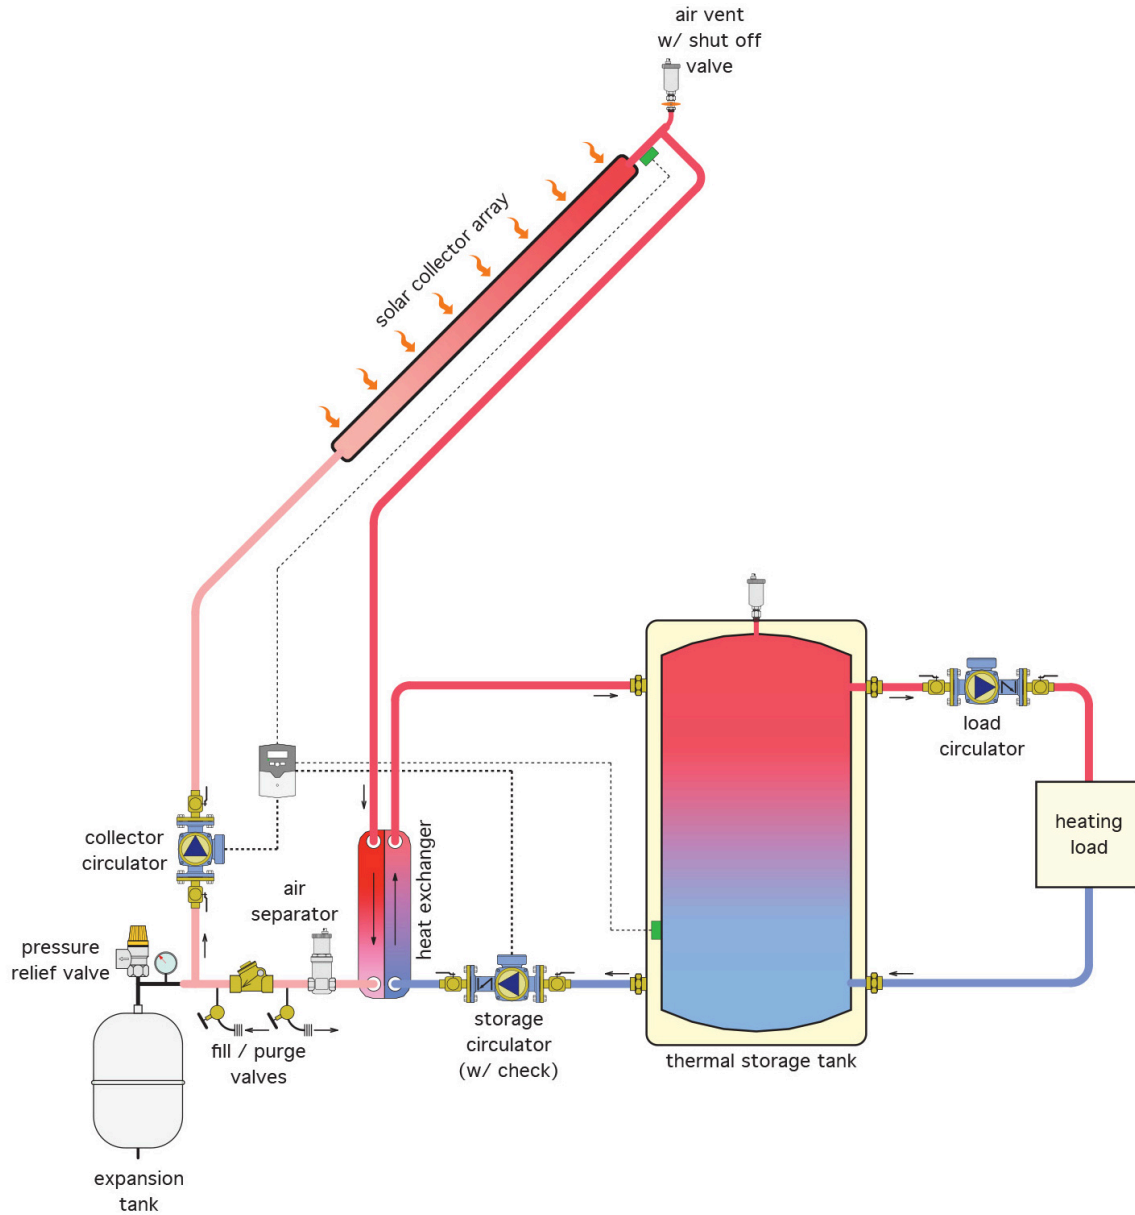

Figure 3 Externally-mounted heat exchanger using antifreeze
- Figure 3 Flat plate collector © Caleffi Hydronic Solutions (<https://www.caleffi.com/usa/en-us>). Used with permission.
Figure 3 shows a heat exchanger mounted external to the tank, rather than within it. Although it contains antifreeze on the collector side, the heat exchanger would have to be mounted within a heated space to prevent the system water side from freezing.